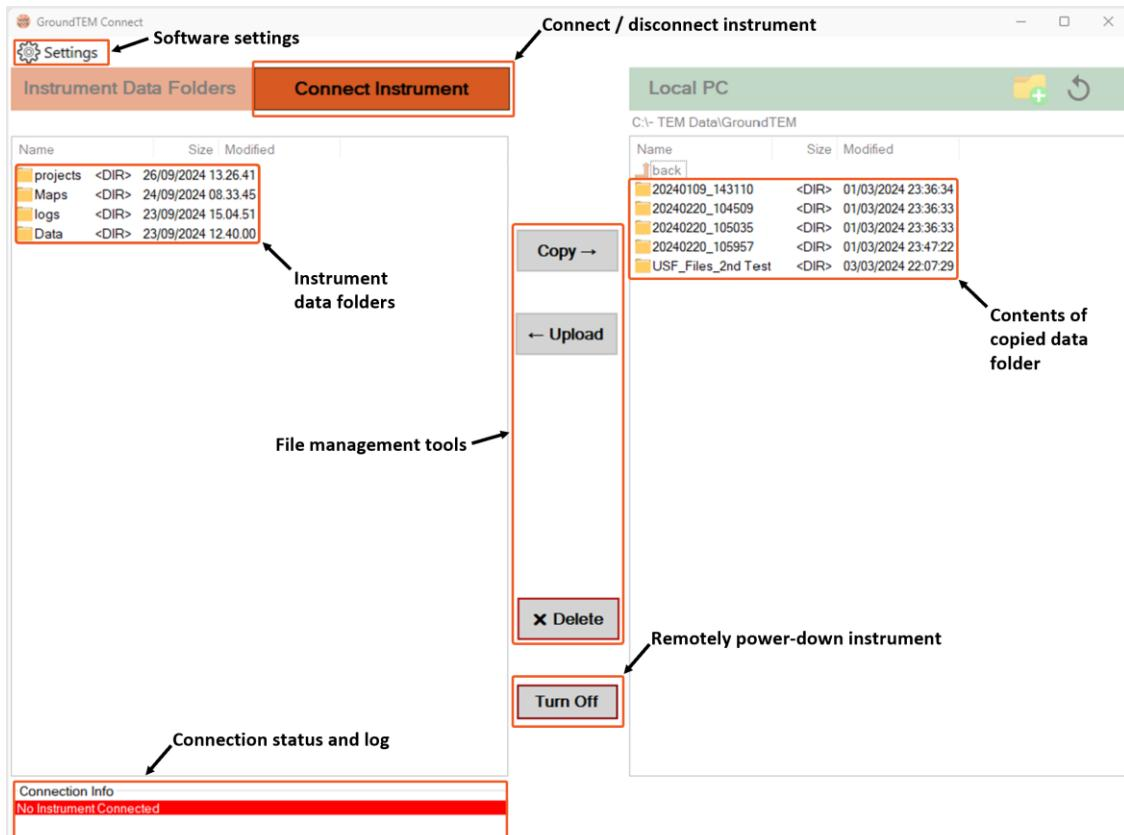

Figure 21. GroundTEM Connect for copying data from GroundTEM Ralli unit and/or upload background maps.
- To copy the background map to the GroundTEM Ralli unit use the GroundTEM Connect software to upload the files from the local PC to the “Maps folder” using the “Upload” button (Figure 21).
See Download data from GroundTEM Ralli unit section and Figure 21 for more information on how to upload the created files.
- Press *Connect to Instrument* to display the data folders on the GroundTEM Ralli instrument (Figure 21).